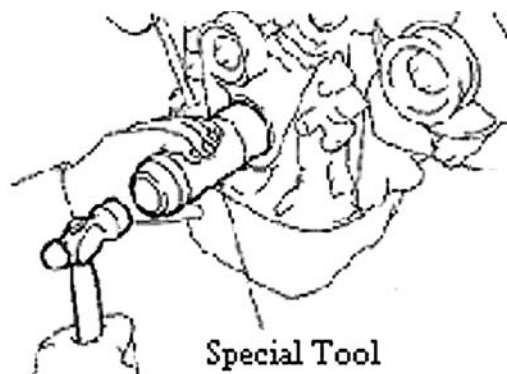

Figure 77
4. Install crankshaft timing pulley. See (Figure 77)
14. Install crankshaft timing pulley. See (Figure 77)